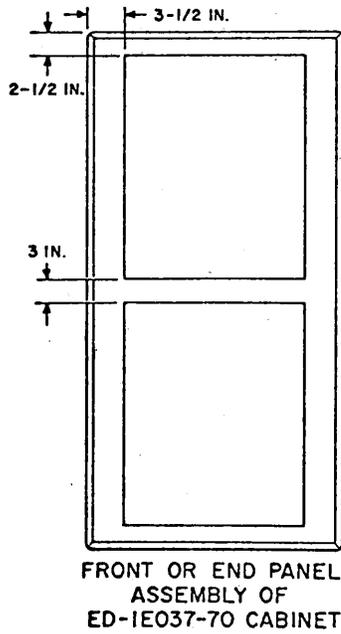

Fig. 5
- (1) Remove panels from cabinet and place in horizontal position with inside up.
- (2) Clean inside of panel (dust free).
- (3) Place the exposed adhesive of two Foamstik tape panels on the center of each cabinet panel and press firmly (See Fig. 5).
- (4) Replace panels on cabinet.